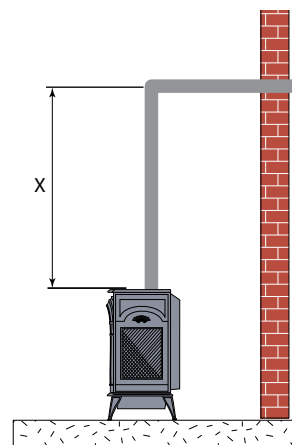

Fig. 31 Vertical Height Requirements
3. Place stove into position. Measure the vertical height (X) required from the base of the flue collars to the center of the wall opening. Figure 31